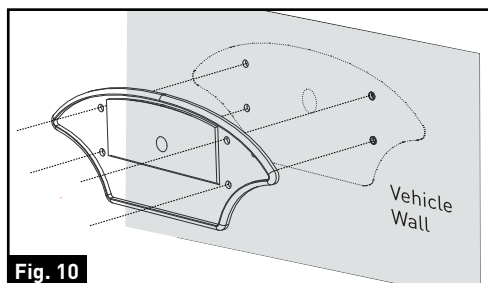

Fig. 10
1. Select a suitable mounting position where you are going to install the doorway camera. Mark a basic outline using the provided bracket gasket. (Fig. 10)